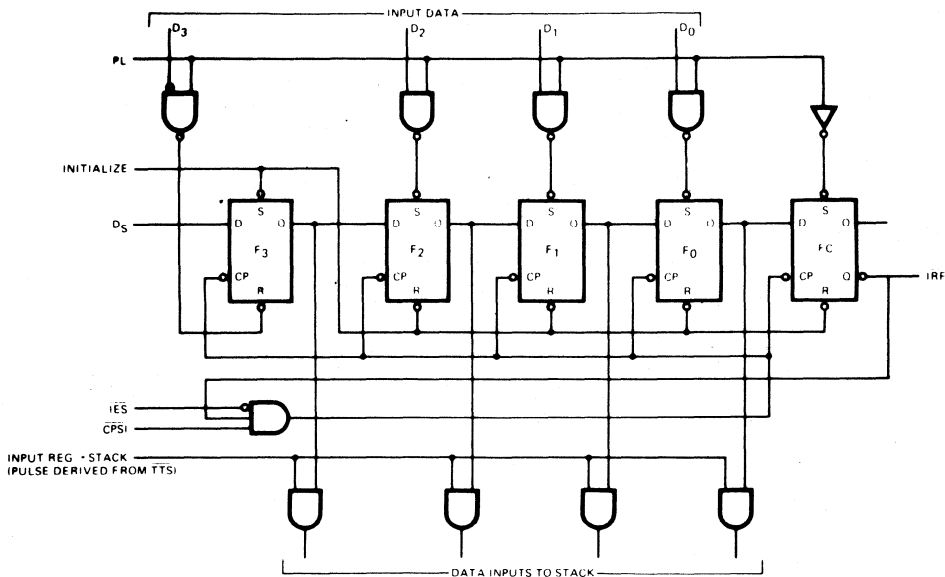

Fig. 1
Figure 1 is a conceptual logic diagram of the input section. As described later, this 5-bit register is initialized by setting the F3 flip-flop and resetting the other flip-flops. The Q-output of the last flip-flop (FC) is brought out as the "Input Register Full" output (IRF). After initialization this output is HIGH.